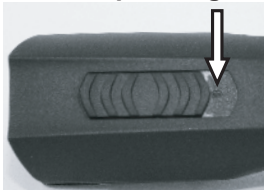

Fig. 4 Switch in OFF-position ("0")
1. Check the contacts of the clipper (1) and the battery (2) for foreign particles and contamination.
2. Make sure that the clipper's switch lever is in the OFF position ("0") (Fig. 4).
3. Insert the battery (2) in the clipper (3), until the interlock battery (1) is engaged on both sides.
4. Insert the clipper with the inserted battery (1) or insert just the battery (2) from above without force into the charging bay in the charging station.
6. Battery is charging. During the charging time the control light is illuminating red (3). As soon as the battery has been charged to a min. 90%, the indicator lamp will change to green and the charging station switch to "trickle charging".
7. Hold the charger firmly with one hand and pull the clipper (1) or the battery (2) out with the other.
1. Move the switch to position "0" (Fig. 4).
2. Push the interlock battery (2) on both sides inward and pull the battery (1) out of the clipper.
3. Insert the charged battery (1) into the clipper (2), until the interlock battery is engaged on both sides.